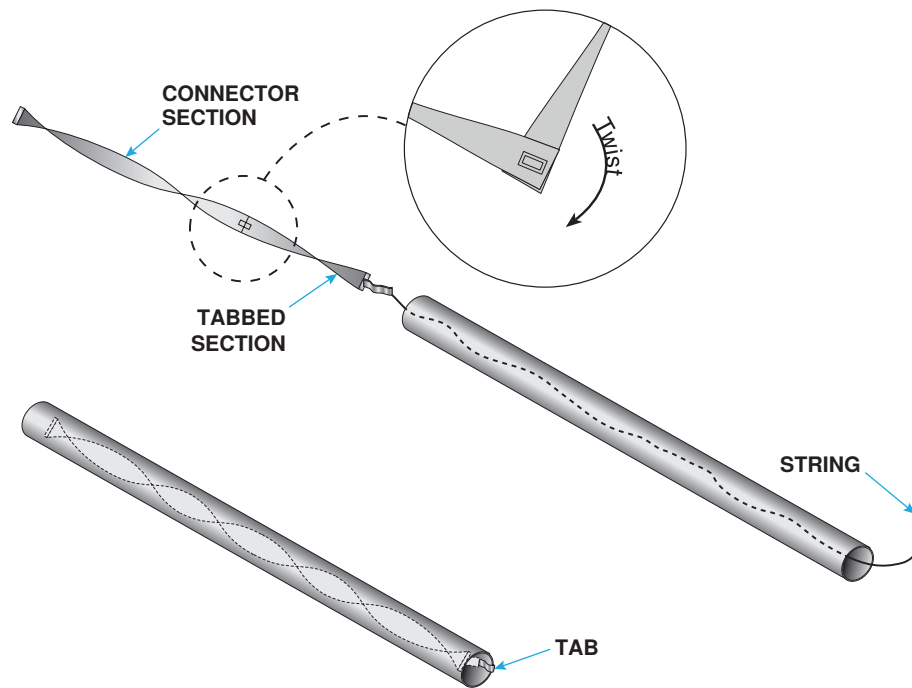

Figure 8. Swirler Installation
- a. Interlock swirler sections as shown in Figure 8 and slide assembly into extension tube. String may be used as shown to position swirler.
- b. Fold tab around downstream end of tube as shown in Figure 8 to secure swirler.